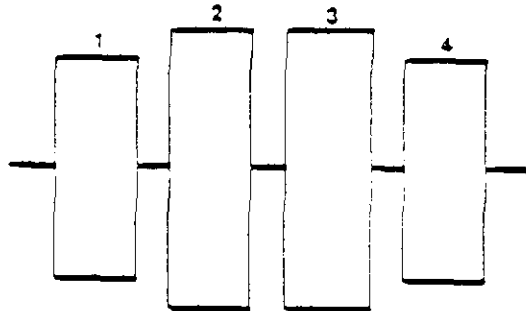

FIGURE 5-10
4. Verify the head azimuth is no greater than \pm 18 minutes by comparing the third set of pulse burst to those in Figures 5-10, 5-11, and 5-12.
5. Select Head 1, and verify the head azimuth. Figure 5-10 depicts an azimuth of exactly zero minutes. This is the optimum head azimuth alignment.